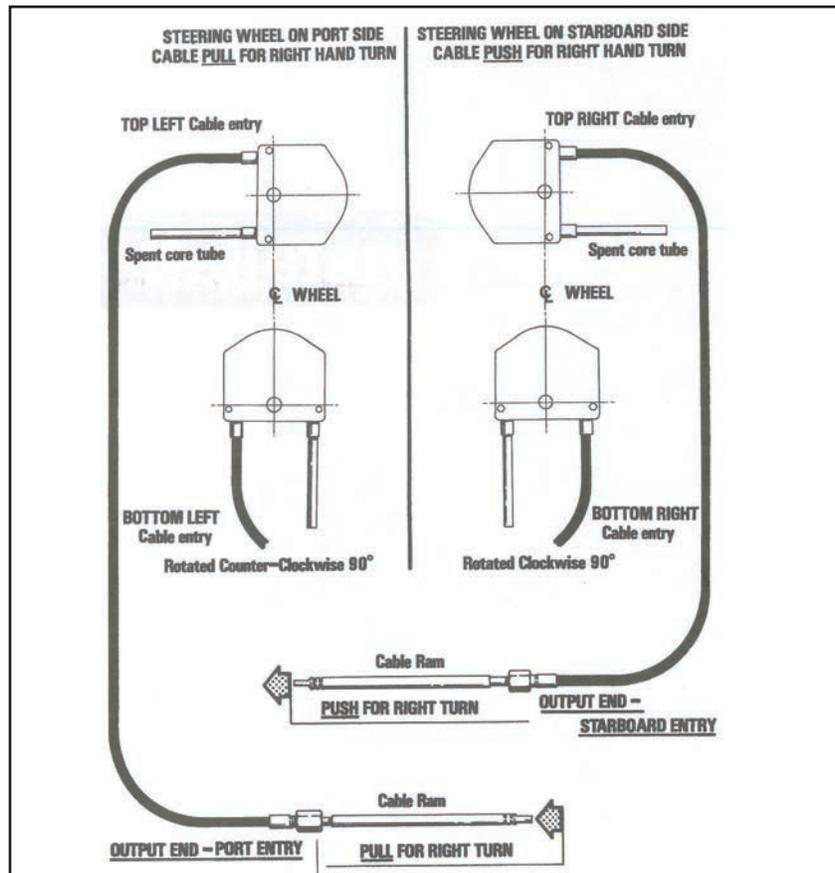

Figure 4.
**STEP 4.** The Helm Assembly can be rotated on the Mounting Bracket to accommodate Cable entry. The best position for the Drive Unit is where the Cable can be installed with the minimum amount of bending. Figure 4 shows the Cable End positions for either PUSH or PULL for right turn operation. The Drive Assembly is adjustable in 45 degree increments from the top right or top left cable entry positions.